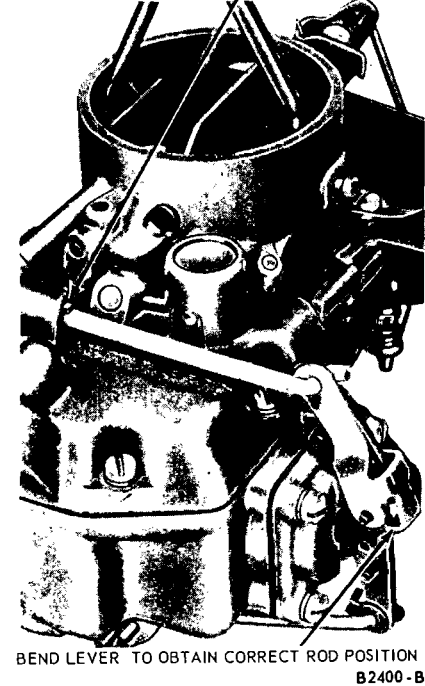

FIG. 39—Fuel Bowl Vent Valve Adjustment—Autolite Model 1100
1. With the air cleaner removed, set the throttle linkage to the hot idle position. The groove in the vent valve rod should now be even with the open end of the vent (Fig. 39). Bend the arm on the vent valve rod